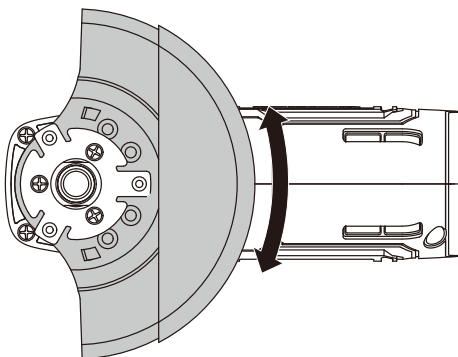

Figure 8
4. ADJUSTING QUICK ADJUSTABLE GUARD (SEE FIG. 8)
The guard can be rotated as shown in the figure 8. Rotate the guard to position the opening so that sparks and debris are directed away from the operator. After adjustment, make sure the guard is securely fixed.